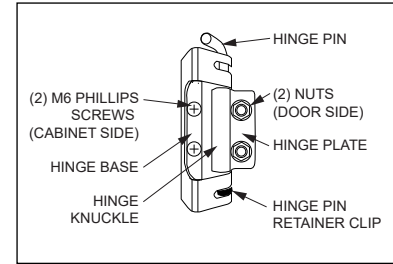

Figure 14 Hinge
2. Use pliers to remove the red hinge pin retainer clips from the hinge, then remove the hinge pins by lifting the pin out of the top of the hinge (Figure 14). Set aside the retainer clips and hinge pins for later use.
4. Move the hinge plates from their positions on the front of the cabinet to the corresponding mounting holes on the opposite side of the doorway (Figure 14). Flip the hinge plate 180° so that when it is mounted, the hinge knuckle will be on the outside of the hinge plate.
5. Remove the hinge bases from the door (Figure 14). Attach the hinge base to the corresponding mounting holes on the opposite side of the door (Figure 17a). Position the hinge base so that the knuckle is pressed against the door flange. Torque the mounting nuts to 60 in-lbs.
10. Lift the door upright and position the door so that the hinge bases line up with the hinge plates in the new positions on the other side of the doorway. While supporting the door weight, rest the door on the hinges and secure it into position by inserting the pins into the hinges from the top. Reconnect the hinge pin retainer clips in the slot near the bottom of the hinge (Figure 14). This clip must be at the bottom of the hinge in order to lock the hinge pin in place.